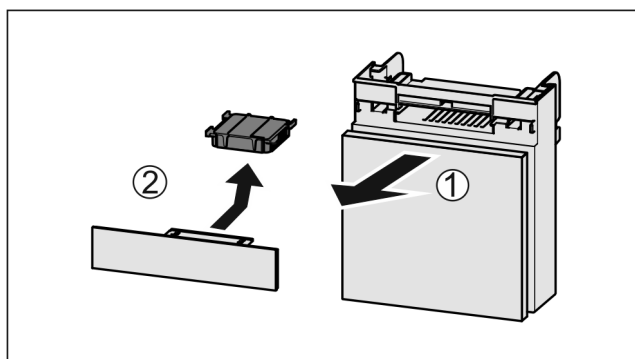

Fig. 133
- ▶ Pull out the compartment *Fig. 133 (1)*.
- ▶ Remove the carbon filter *Fig. 133 (2)*.